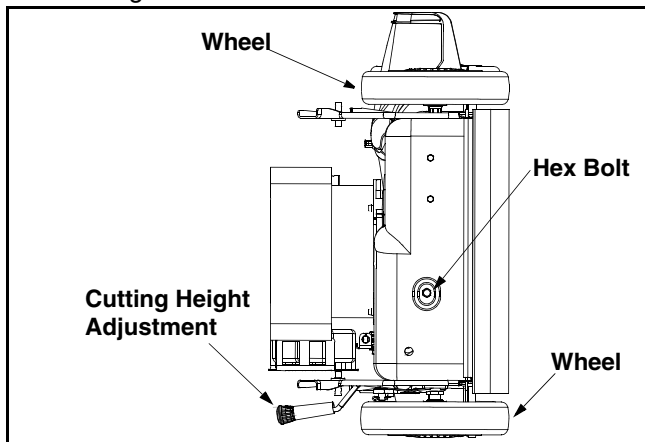

Figure 17
- Remove the hex bolt from the rear of unit holding the transmission to the mower housing. See Figure 17.